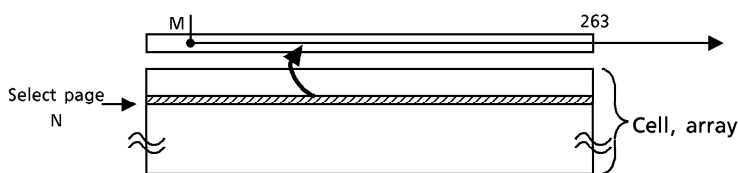

Figure 3. Read mode (1) operation
Read mode (1) is set by issuing a “00H” command to the command register. Refer to Figure 3 below for timing details and a block diagram.